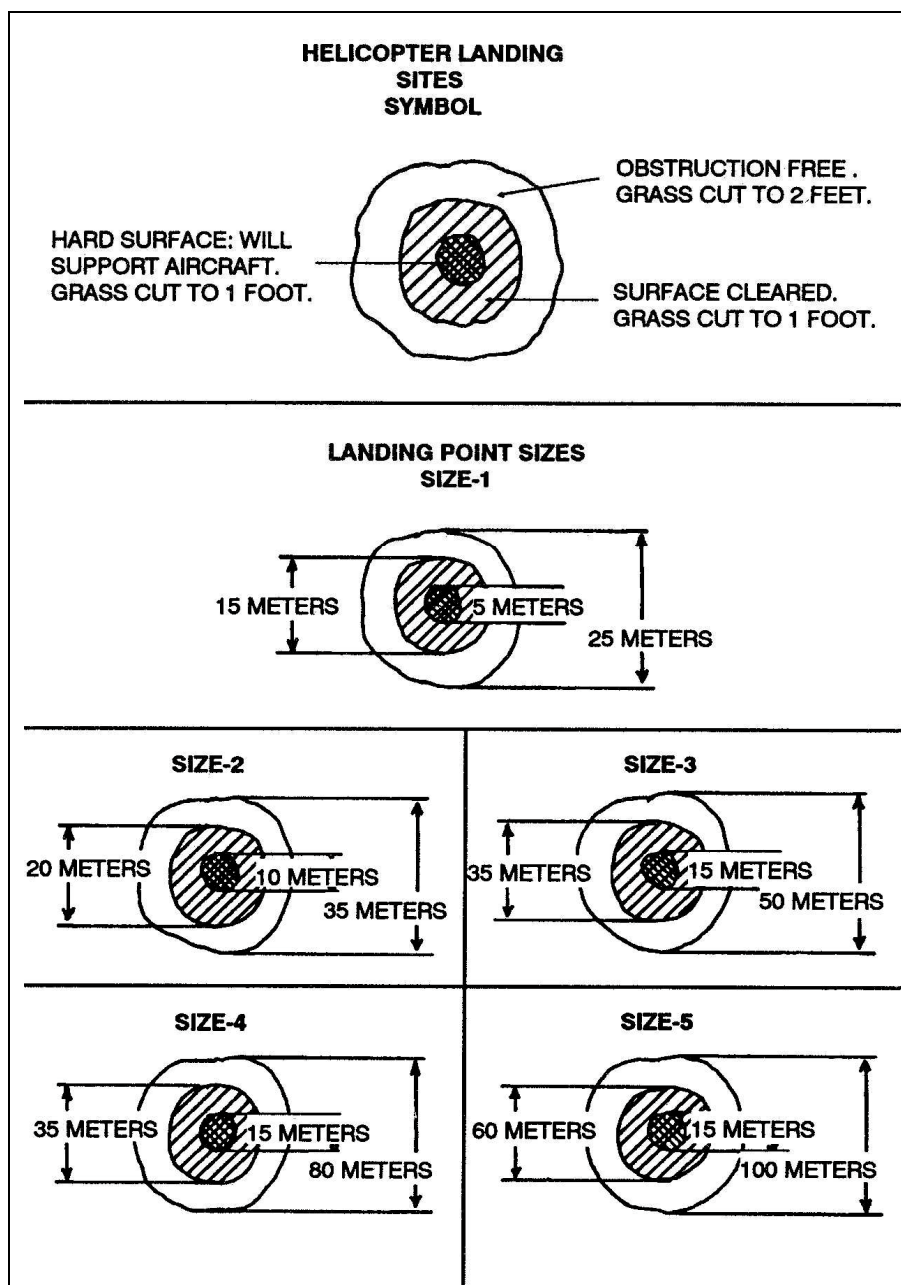

Figure 4-3. Landing points.
d. **Measure the Shortest Distances Between Landing Points.** In a landing site, pathfinders measure the minimum distances between landing points, from center to center. When aircraft sizes vary, pathfinders separate landing points by the most generous measure, allowing 100 meters from center to center of the landing points (Figure 4-3, page 4-6). At the least, these distances must measure--
- (1) Size 1 Landing Point. 25 meters.
- (2) Size 2 Landing Point. 35 meters.
- (3) Size 3 Landing Point. 50 meters.
- (4) Size 4 Landing Point. 80 meters.
- (5) Size 5 Landing Point. 100 meters.